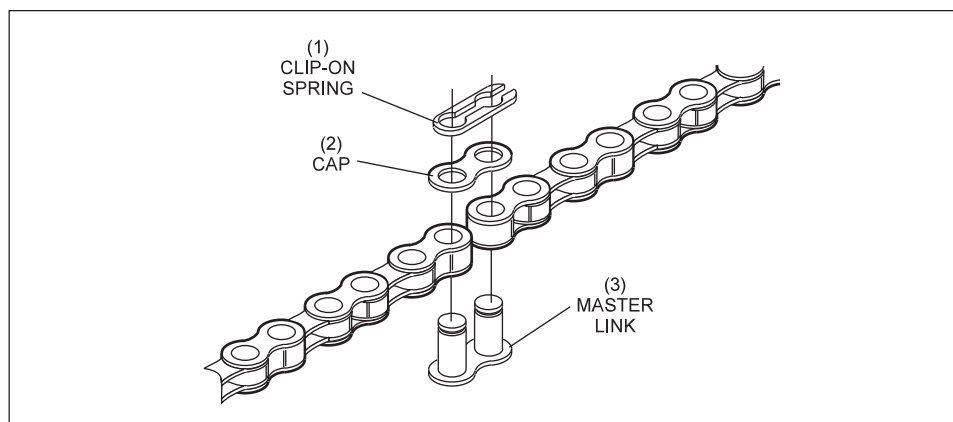

Figure 8-15. Chain Repair.
6. Place the cap on both pins of the master link. Refer to *Figure 8-15*.